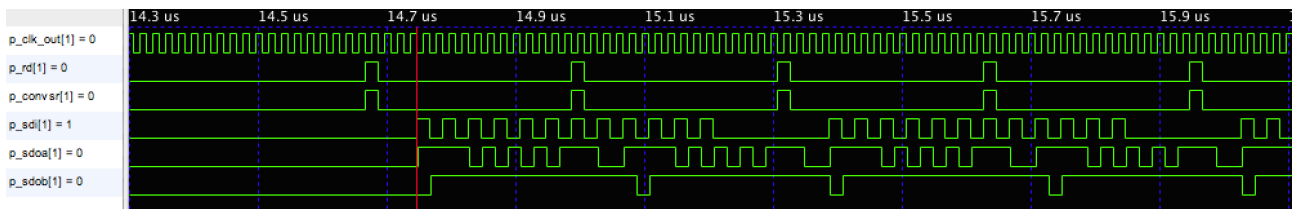

Figure 8: Screen capture showing waveform
5. All the signals are displayed in the waveform viewer, as shown in Figure 8: